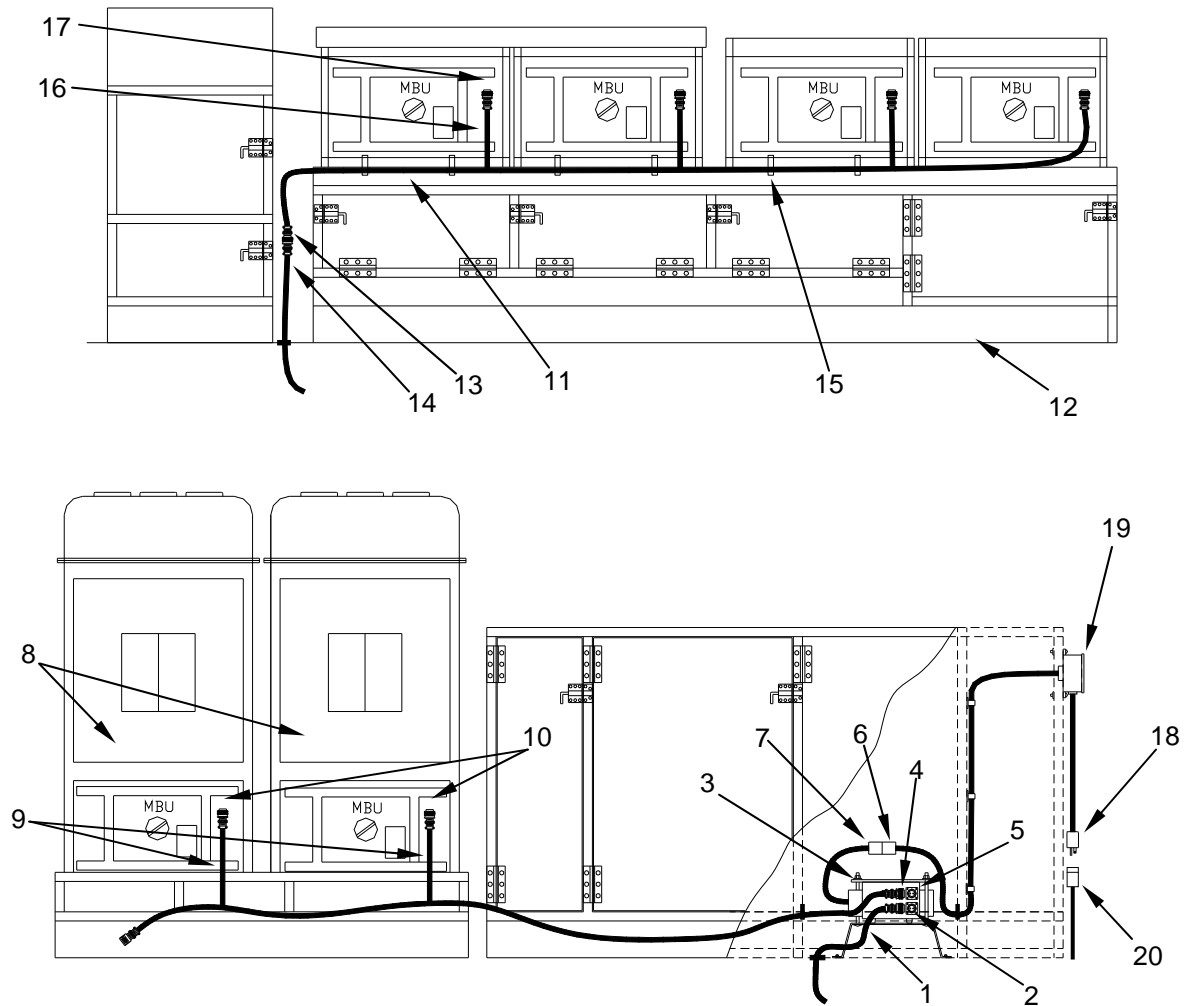

Figure 3. Connecting Power Cables to MKT.
1. With the power converter in position on the mounting bracket, connect the end of the crossway cable (Figure 3, Item 1) extending up through the floor of the cooling cabinet to the lower output connector (Figure 3, Item 2) on the power converter (Figure 3, Item 3).
2. Connect the main connector (Figure 3, Item 4) of the 2-branch cable to the upper output connector (Figure 3, Item 5) of the power converter (Figure 3, Item 3).
3. Connect the end of the feedway cable (Figure 3, Item 6) extending up through the floor of the cooling cabinet to the power cord (Figure 3, Item 7) of the power converter (Figure 3, Item 3).
4. Pass the remainder of the 2-branch cable through the left side of the cooling cabinet and distribute it under the two M59 Field Ranges (Figure 3, Item 8).
5. Pull the individual branch cables (Figure 3, Item 9) out the front of each appliance and connect each branch to the power-in receptacle (Figure 3, Item 10) of each MBU.
6. Distribute a 4-branch cable (Figure 3, Item 11) along the floor in front of the appliances (Figure 3, Item 12) on the opposite side of the MKT.
7. Connect the main connector (Figure 3, Item 13) of the branch cable to the end of the crossway cable (Figure 3, Item 14), extending up through the floor of the MKT opposite the cooling cabinet.
8. Hang the 4-branch cable along the front of the appliances with cable clips (Figure 3, Item 15) provided with the MBU.
9. Connect each branch (Figure 3, item 16) of the 4-branch cable to the power-in connector (Figure 3, Item 17) of each MBU.
10. Slide the clips (Figure 3, Item 15) left or right as needed to organize the cable along the front of the appliances to help prevent the cable from extending into the work area.
11. With the power converter main power switch OFF, connect the feedway cable receptacle (Figure 3, Item 18), located just below the GFCI outlets (Figure 3, Item 19) mounted to the side of the cooling cabinet, to the designated power source using the 50-ft (110VAC) extension cord (Figure 3, Item 20) provided.